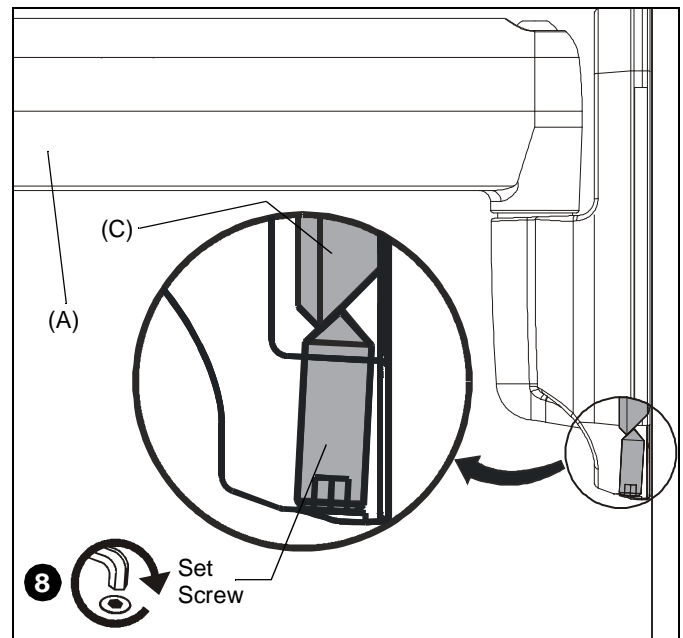

Figure 3
8. Use 5/32" hex wrench (L) to tighten set screw in bottom of KWK-110. (See Figure 3)
NOTE: Ensure set screw engages on back side of wall plate (C) to properly secure KWK-110. (See Figure 3)